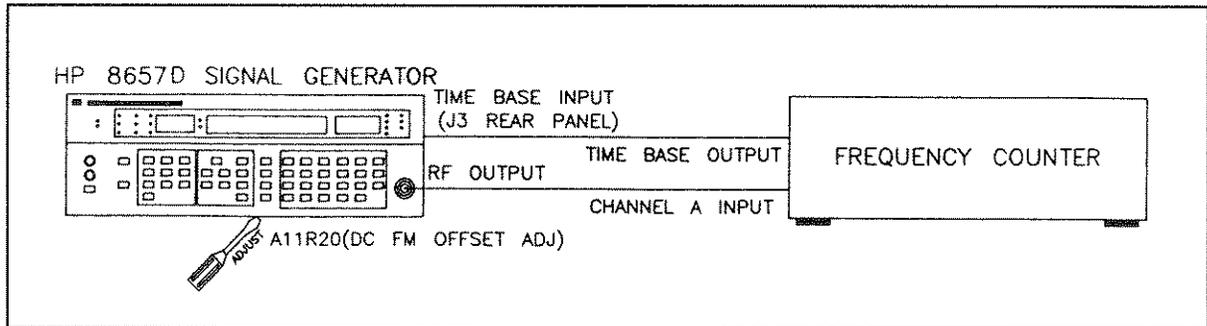

Figure 5-20. DC FM Frequency Offset Adjustment Setup
3. Connect the HP 8657D RF OUTPUT to the frequency counter CHANNEL A INPUT and the counter time base OUT to the HP 8657D Time Base INPUT as shown in Figure 5-20.